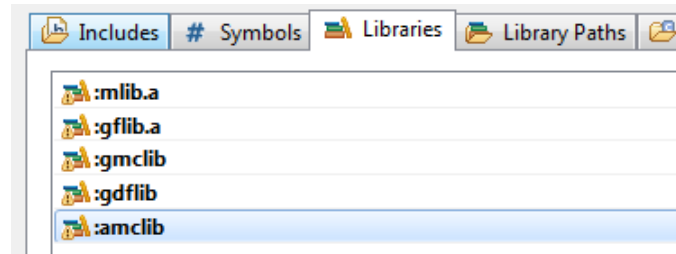

Figure 1-20. Libraries
15. After adding the library paths, add the library files. Click the Libraries tab. See Figure 1-20.
26. Click OK, and you will see the libraries added in the list. See Figure 1-20.